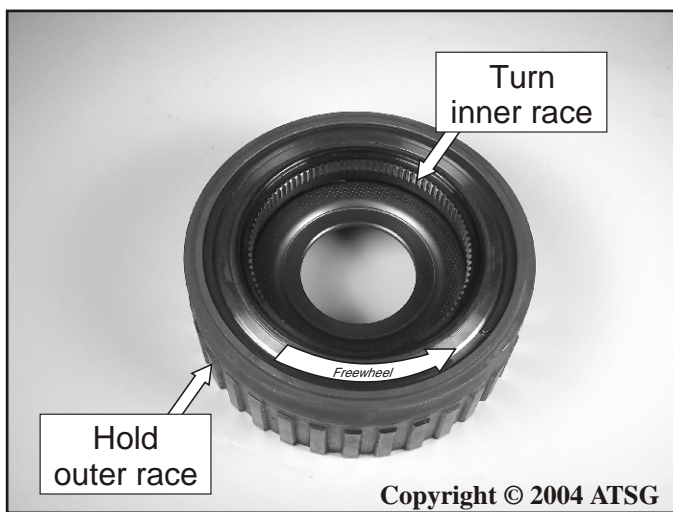

Figure 185
- 129. Inspect the inner race for wear, and assemble the inner race into the F2 freewheel assembly and check for proper rotation. **Note: The inner race freewheels counter clockwise and locks clockwise when holding the outer race.** See Figure 185.